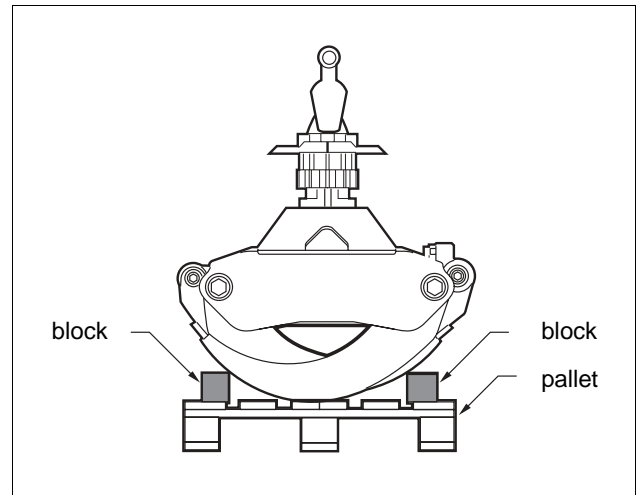

Fig. 38 Place the grapple on a firm base
2. Place the grapple on a firm base. *See Fig. 38.*